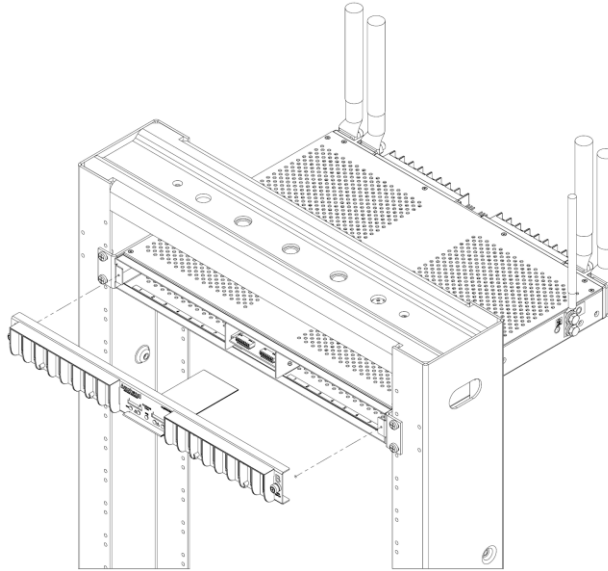

Fig. 2-8: Removing the Front Cover
19. Remove front cover by unscrewing thumb screws or using Phillips screwdriver, as shown in Fig. 2-8. Once the front cover has been taken off the panel, remove and discard the small pink packaging foam piece inside the front cover.